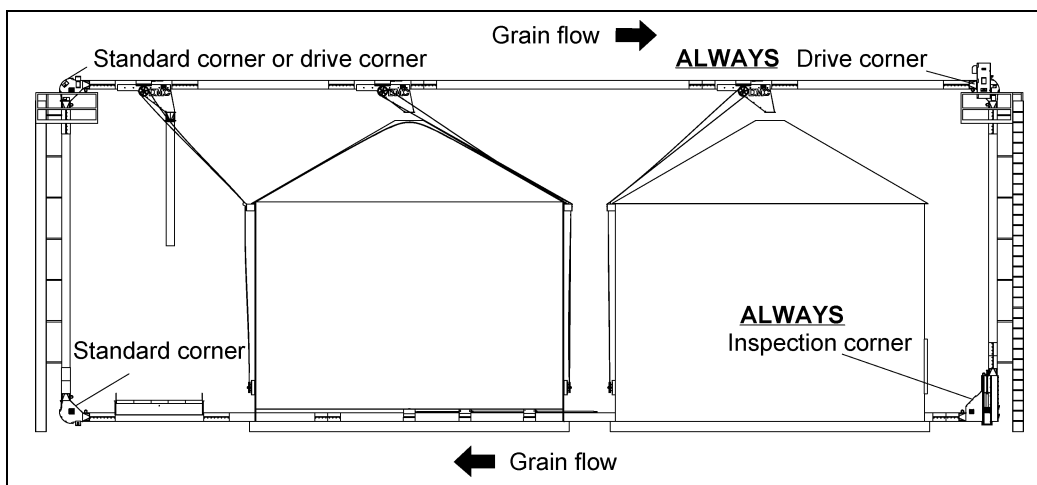

Figure 4A
A layout should be drawn to show the exact location of grain bins, inlets, outlets, the control box, outlet control kits, the power source and the supporting structure. The layout should consider future expansion, the ability to mix grains from several locations, the grain direction, the operation of slide gates, the use of other conveyors to fill or unload bins and whether the Chain Loop tube is under the center of or beside the grain bins. Chain Loop Systems are provided with one (1) or two (2) drive corners depending on the power requirements of each system. Drive corners are always located at the upper corners, and the drive corner for single drive systems must be located at the far end of the top chain run. This will allow the drive corner to pull grain up from the loading hopper and across the top to the storage bins. **The inspection corner is always located on the ground furthest from the loading hopper. This allows proper chain tensioning throughout the system.** (See Figure 4A on Page 16.)